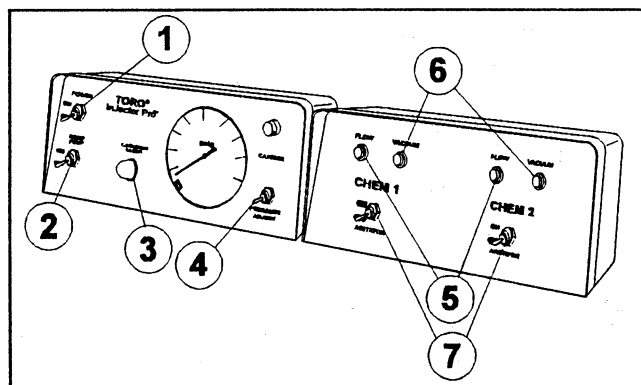

Fig. 3
**POWER SWITCH (FIG. 3):** Turns the Carrier Control Box on and off.
**RINSE PUMP SWITCH (FIG. 3):** Turns Electric Pump on and off.
**PUMP PRESSURE SENSOR (FIG 3):** Goes out when pump pressure drops below 10 PSI.
**PRESSURE ADJUSTMENT SWITCH (FIG 3):** Raises and lowers the Carrier pressure.
**INJECTION PUMP FLOW WARNING LIGHT (FIG 3):** Goes out when Injection Pump pressure is lost.
**INJECTION PUMP VACUUM WARNING LIGHT (FIG 3):** Goes out when Injection Pump vacuum is above operating range. This can be caused by a clogged line or Strainer.
**OPTIONAL AGITATOR SWITCH (FIG 3):** Turns on and off Agitator. (only used with optional Agitator).